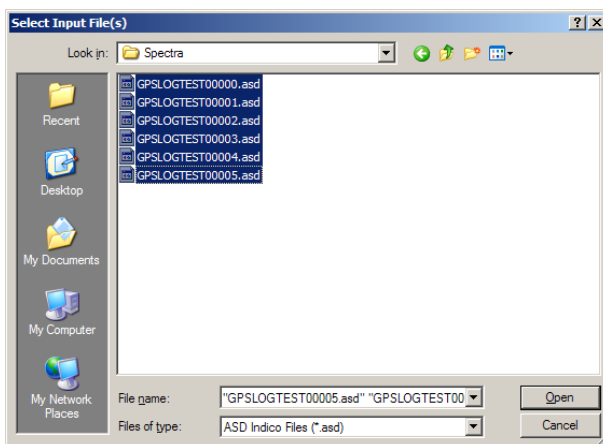

Figure 3-70: Select Input File(s)
Step 3 Navigate to the folder of the spectral data and select all files to be added into the GPS log. Press *Open* (Figure 3-70).